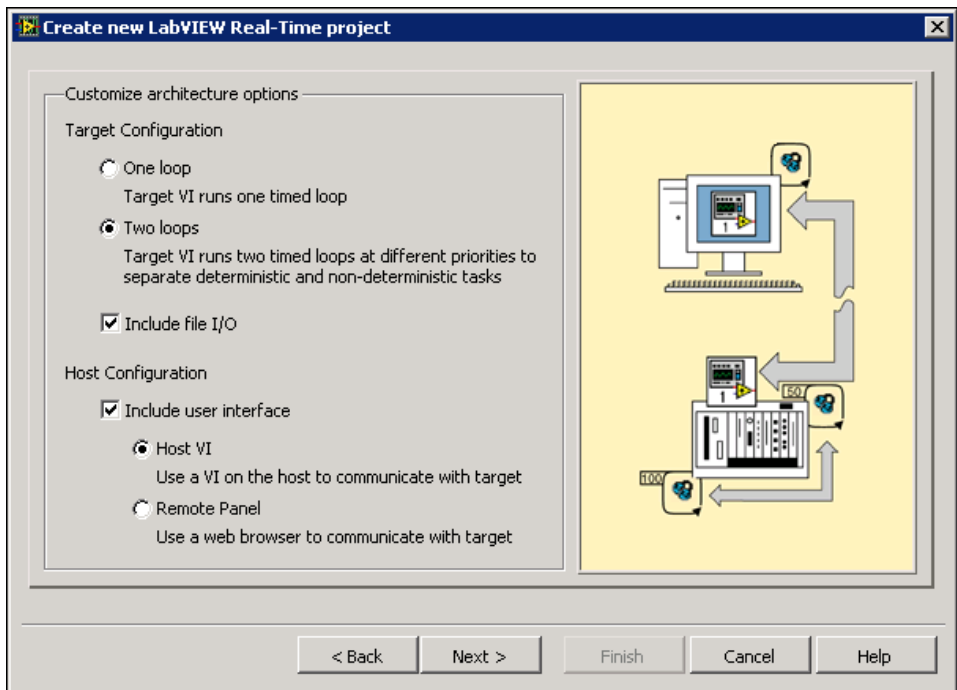

Figure 5. Configuring the Architecture Options
1. Select **Two loops**, as shown in Figure 5, to create an RT target VI with two Timed Loops.